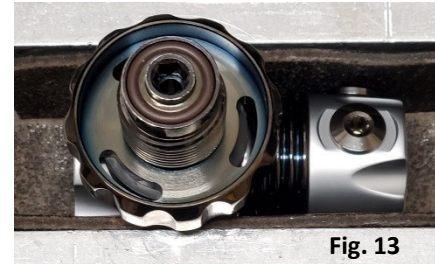

Fig. 13
9. Secure the regulator body in a padded vise with the vise clamps gently holding the cylindrical sides of the regulator body (with both HP port plugs removed). Wood strips or 4-6" strips of heavy leather cut from an old plain belt work well to protect the finish of the regulator body (Fig. 13).